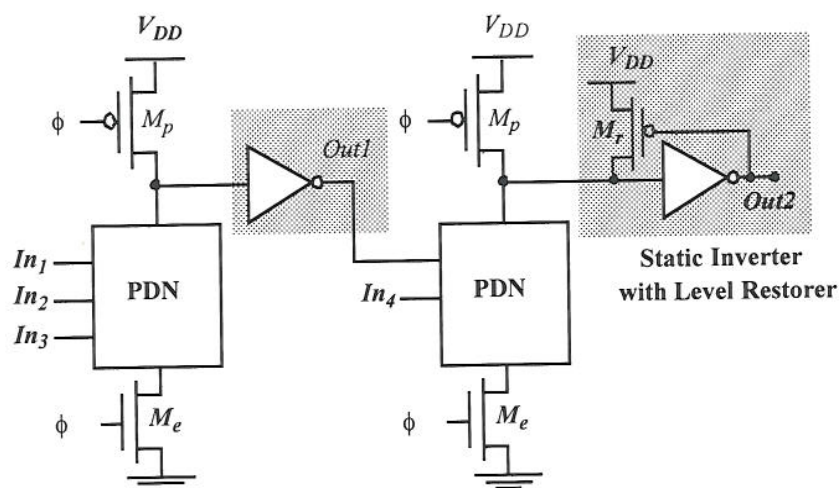

Figure 5.2 Domino logic circuit
- d) Describe how the domino logic circuit in Figure 5.2 overcomes this problem.